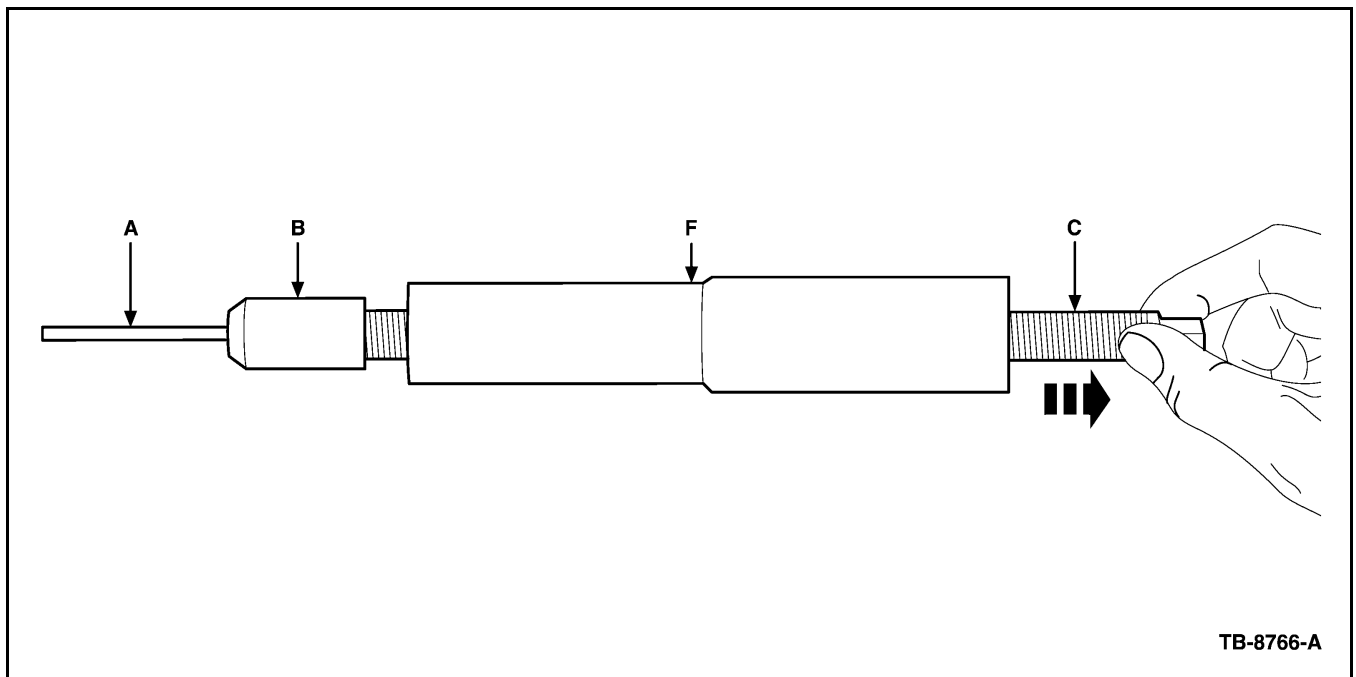

Figure 13 - Article 08-7-6
4. Retract the collet and pin into the steel tool pilot, protecting the pin. (Figures 13 and 14)